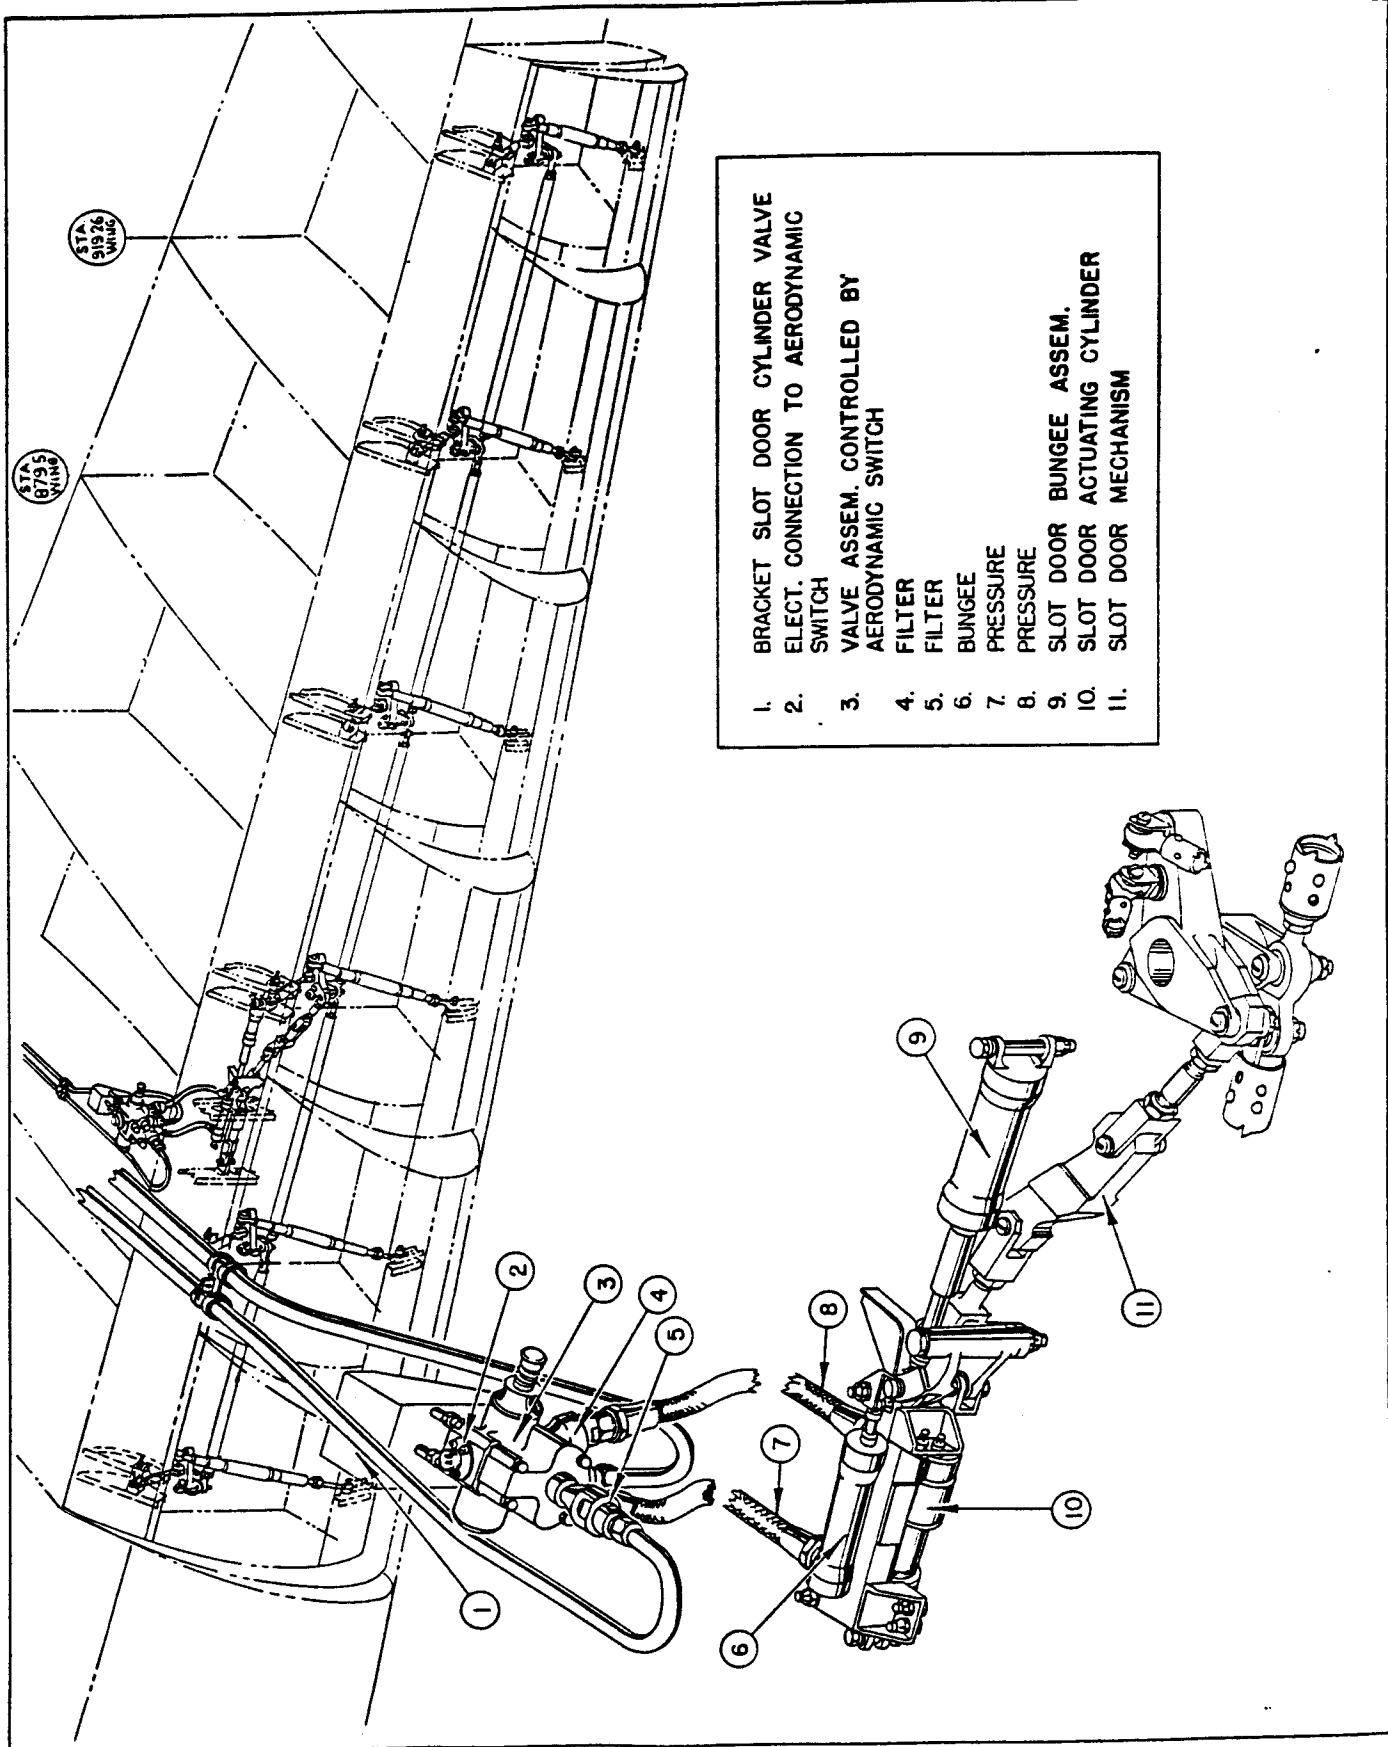

Figure 27. Wing Slot Door Actuating Mechanism
3. A slot-door-actuating cylinder incorporating a restrictor at the mounting cap end, is installed in each outer wing section. See figure 27.